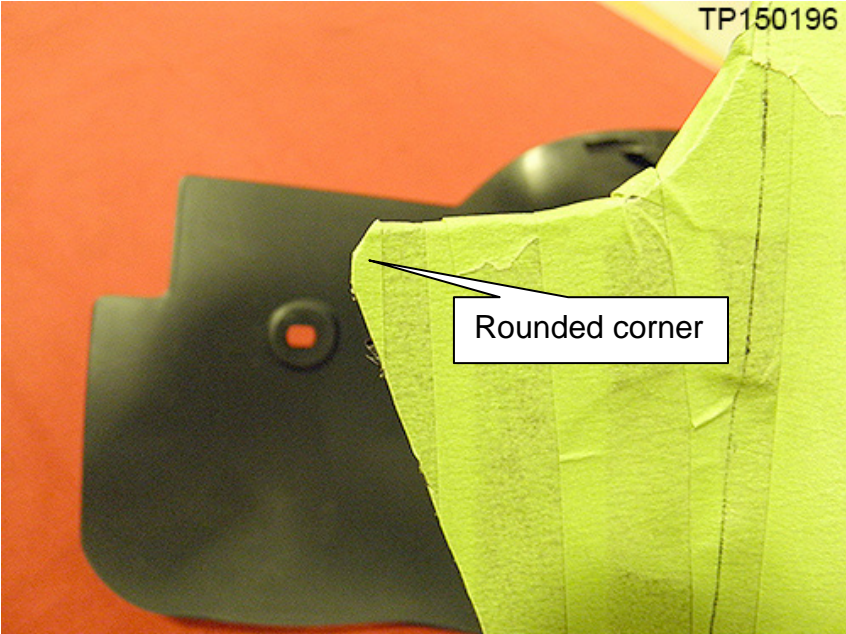

Figure 12
13. Round the upper corner with sturdy scissors (Figure 12).